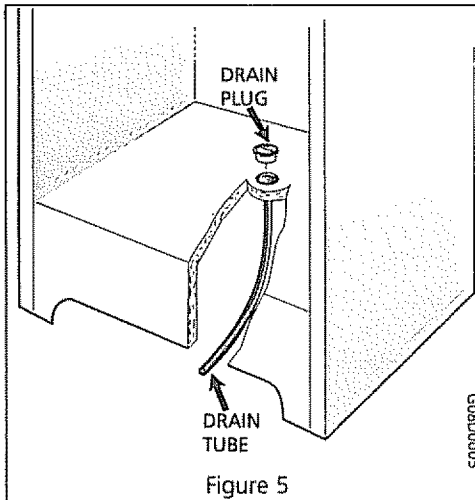

Figure 5
- On upright models with a defrost drain (Figure 5), remove the drain plug on the inside floor of the freezer by pulling straight out. The drain tube is located near the left center under the freezer, behind the base panel. Place a shallow pan under the drain tube. Defrost water will drain out. Check pan occasionally so water does not overflow. Replace the drain plug when defrosting and cleaning are completed. If the drain is left open, warm air may enter the freezer.